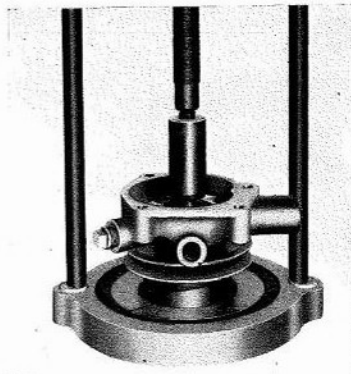

Fig. Q.7.
5. Locate the pulley in tool T.7000 (See Fig. Q.7) and place the body over it so that the shaft enters the hole in the pulley. Press the shaft into the pulley.